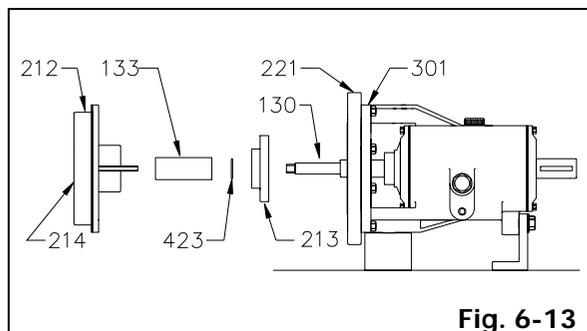

Fig. 6-13
- Remove stuffing box cover (212) and end ring (214) as a unit from bearing bracket (301) or adaptor extension ring (221).
- Remove shaft sleeve (133), shaft sleeve "O" ring (423) and gland (213) from shaft (130) (Fig. 6-13).